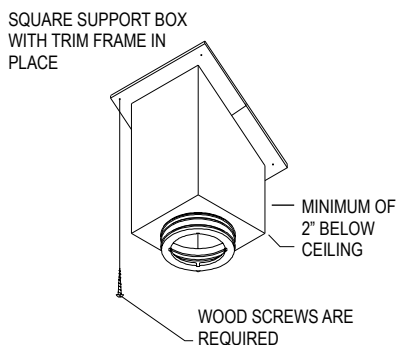
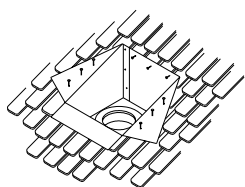

Figure 9
Figure 21
(Fig.9). For installation into a cathedral ceiling, you must use the Square Ceiling Support Box or Reduced Clearance Support Box (or the CAS Ceiling Support if installing the CAS system) and the two-piece Trim. The bottom of the square portion of the Support Box must be a minimum of 2" lower (round portion is then an additional 3" lower) than the finished ceiling at the lowest side of the penetration (**Fig.9**). Level the Support Box and secure it to the framing using at least three (3) 8-penny nails per side (minimum of 12 nails total), or a minimum of (3) #8, 1-1/2" wood screws. Adjust
the overlapping “U-shaped” Trim pieces so they cover the Support Box, and secure them to the framing members using the (6) 1-1/4” round head wood screws provided (**Fig.9**).
framing with at least three (3) 8-penny nails, or (3) 1-1/2", #8 screws, per side (**Fig.21**). Be sure to keep the Support Box level. Screw the trim sections into the ceiling (**Fig.9**).